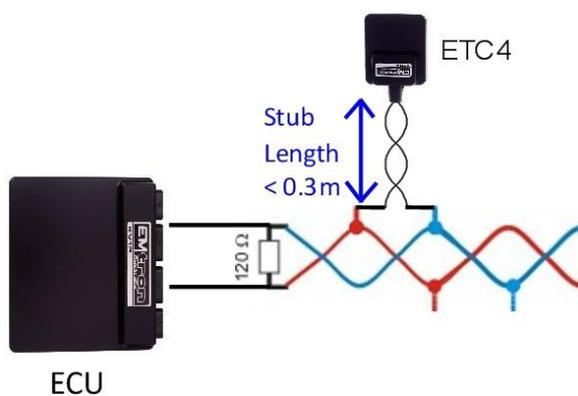

Figure 3.2. CAN Bus Wiring Example. Stub Length less than 0.3m
- Maximum Stub length to a device from the main Bus is recommended at 0.3m, in accordance with High-Speed ISO 11898 Standard specification. See Figure 3.2.